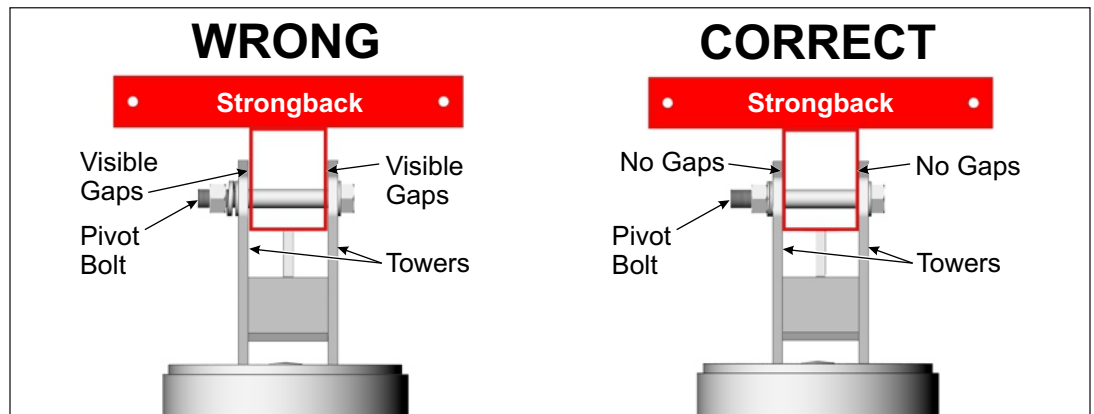

Figure 2-4: Tighten and Torque the Pivot Bolt
- G. Return and tighten the Pivot Bolt. The Pivot Bolt cannot be left loose - the Mounting Sleeve Vertical Towers must be firmly clamped to the sides of the Strongback eliminating any gaps between the Vertical Towers and the Strongback. **Torque to 75-85 ft.-lbs.** (See Figure 2-4)